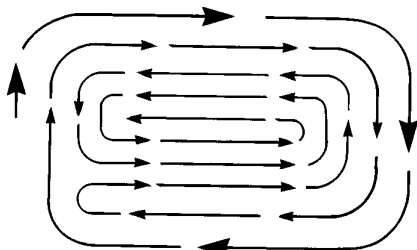

FIG. 10
- For side discharge lawn mowers, cut in a counterclockwise direction, starting at the outside of the area to be cut, in order to spread grass clippings more evenly and to put less load on the engine. To keep clippings off of walkways, flower beds, etc., make the first cuts in a clockwise direction (See Fig. 10).